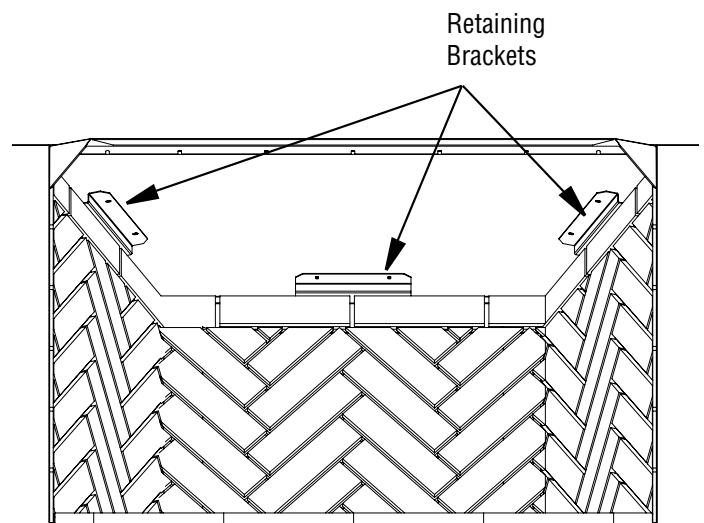

Figure 15 - Installing Side and Rear Walls
4. Secure the firebrick wall using 2 of the retainers provided. The bracket will slip underneath the metal lip on the top of the wall and screw into the inner dome of the fireplace (Figure 15).
5. Install the rear firebrick wall last. Place the wall face side down on the hearth with the bottom of the wall toward the rear of the firebox and the top toward the front of the fireplace. Tilt the wall up toward the back of the firebox. Secure with 2 rear retaining brackets provided (Figure 15).